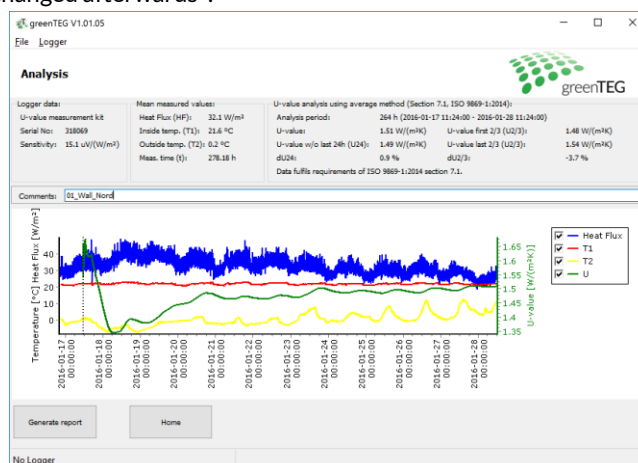

Figure 3: Analysis window showing U-value output and sensor data graphs.
10. By selecting the latest logging file, you can review the logged data set. In the newly opened window named “Analysis”, you will find the last measured data points (see Figure 3). The values stated in the header of the window are explained in detail in Appendix A. A graphical review of the measured data is given in the chart:
³ In order to save this comment, you need to save the report as a PDF (see step 11), otherwise this comment will be overwritten by your next comment. So, be aware that if you are reviewing an old data set, it doesn't show the original comments anymore. You can correct this again by simply revising the text in the box after “Comments” (see Figure 3).